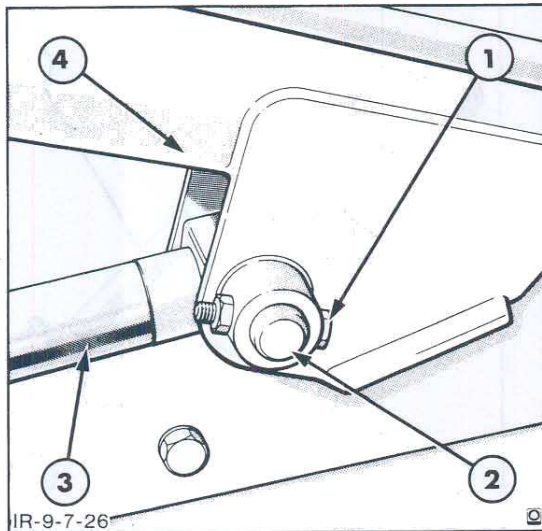

Figure 26
- (ii) Remove the rod pin by removing the pin to loader arm retaining bolt and nut, Figure 26.